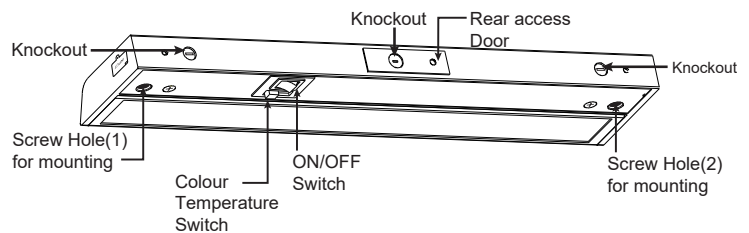

FIGURE 1
**2. Locate Mounting Holes:** Place fixture on mounting surface and with a thin screwdriver, pencil or scratch awl mark the spot where the screws will be located through the Mounting Holes in the top of the fixture. See Figure 1. Do the same for a multiple fixture installation. For mounting into drywall, drill 3/16" holes for the plastic wall anchors (not included). Insert the plastic wall anchors into the proper holes and tap them into place so they are flush with the surface of your drywall. Caution: Check your cabinet thickness first. Be careful not to drill through cabinet. Prepare fixture for installation by turning screws provided into mounting holes in the top of the fixture so they protrude through the back of the fixture about an 1/8". This will help you line up screws to mounting holes.